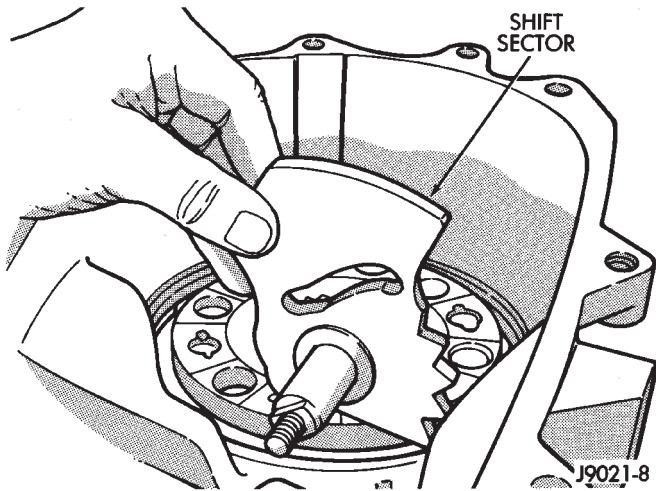

Fig. 61 Shift Sector Installation
(2) Install shift sector in case (Fig. 61). Lubricate sector shaft with transmission fluid before installation.